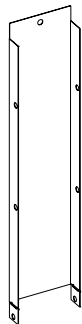

Figure 37
1. Locate the three steel middle standoff under the burner cover. (See Figure 37)